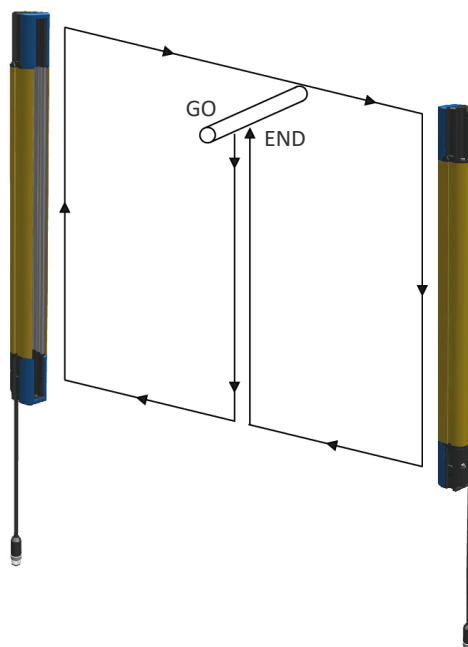

Figure 16: Path of the test piece
- The ESPE remains in Safe State intercepting the beams along the detection zone using the specific test piece (TC-14, TP-30), following the scheme shown in Figure 16.